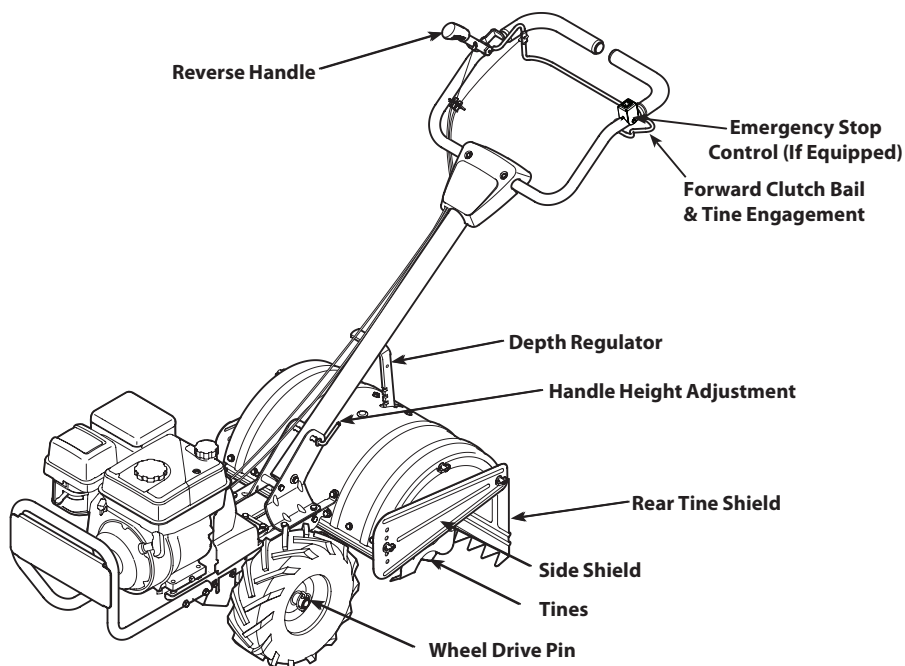

Figure 9
To adjust the depth stake, pull back on the depth adjustment bracket (A) and push up or down (B) until the bracket reaches the desired position, see Figure 9, then release the bracket (C).